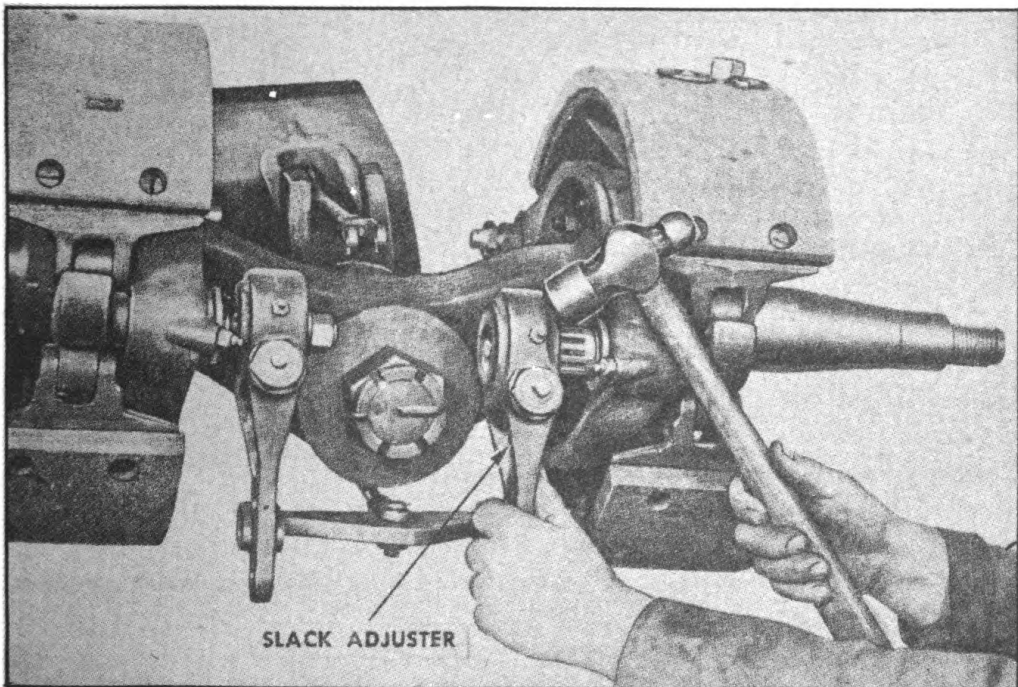

FIGURE 20. REMOVING CAM—STEP ONE
- (1) Remove wheel and hub assembly.
- (2) Remove nut and lockwasher at the slack adjuster end of the cam.
- (3) Remove brake rods from slack adjuster arm and tap slack adjuster off cam spline (Figure 20).